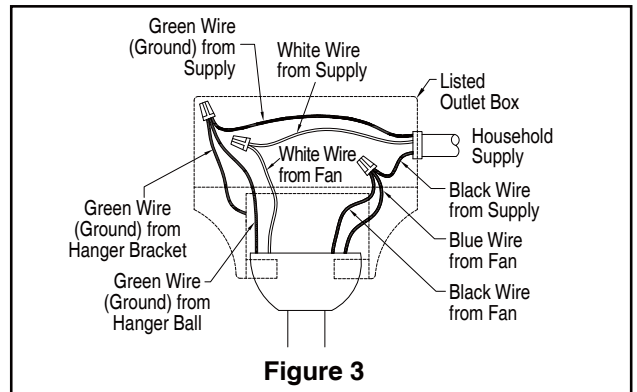

Figure 3
- 3.** After splicing and making the wire connections, the wires should be spread apart and turned upward with the grounded conductor and the equipment-grounding conductor on one side of the outlet box and the ungrounded conductor on the other side of the outlet box. (Figure 3)